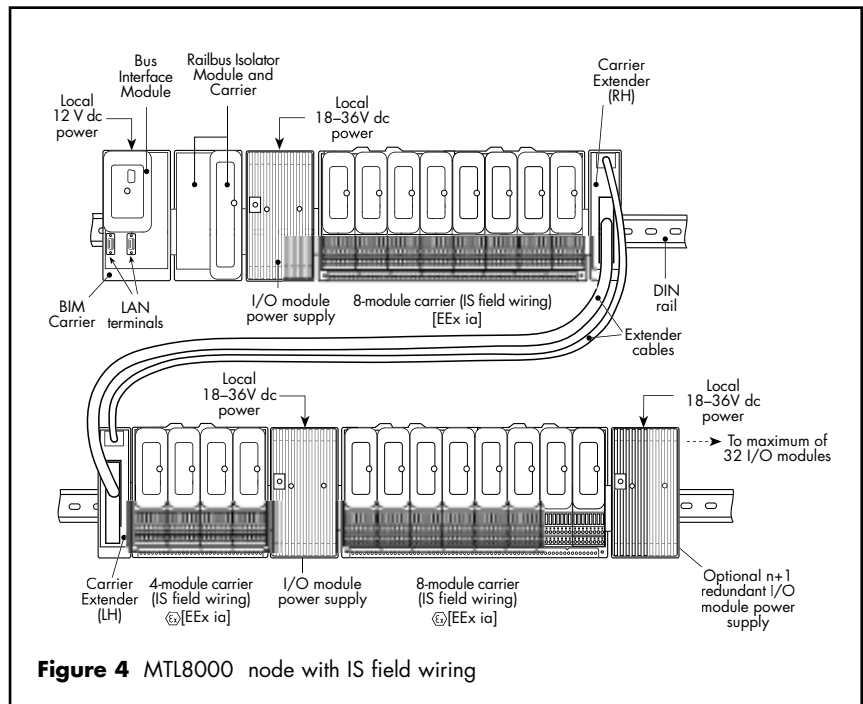

Figure 4 MTL8000 node with IS field wiring
The MTL8000 Process I/O System is capable of supporting I/O modules with intrinsic safety (IS) field wiring, for connection to certified or 'simple apparatus' field devices in Division 1 or Zone 0 hazardous areas (see Figure 4). A range of I/O module types with IS field circuits for industry-standard DI, DO, AI and AO applications is supported.